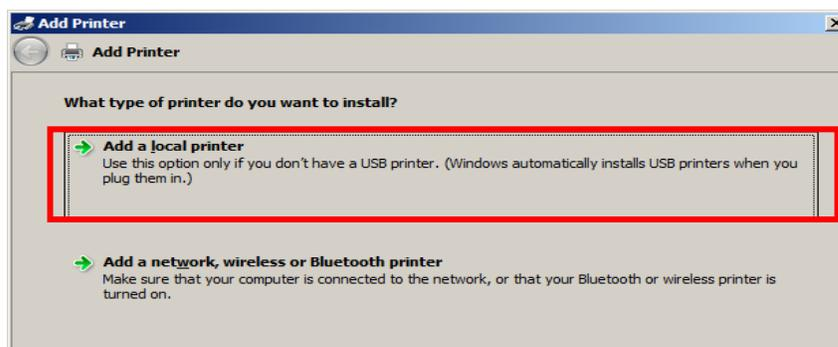

Figure 10-33 - Local Printer – TCP/IP port
13) Click Next and select add a Local Printer. See Figure 10-33 below.